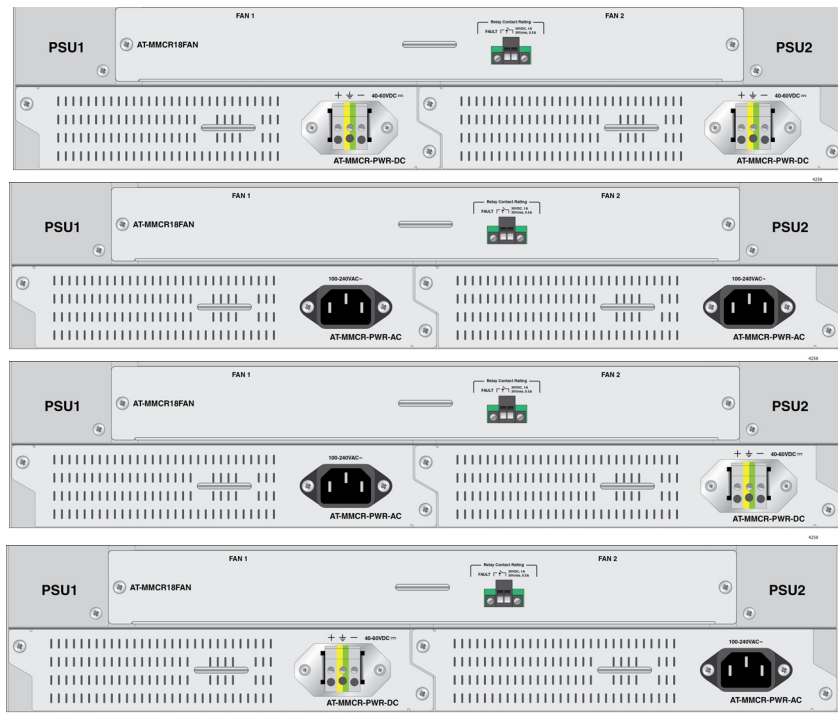

Figure 10. Combinations of Two Power Supply Units
5. If you install another power supply unit, remove the blank panel from Slot B and insert the second power supply unit into Slot B. See Figure 10.